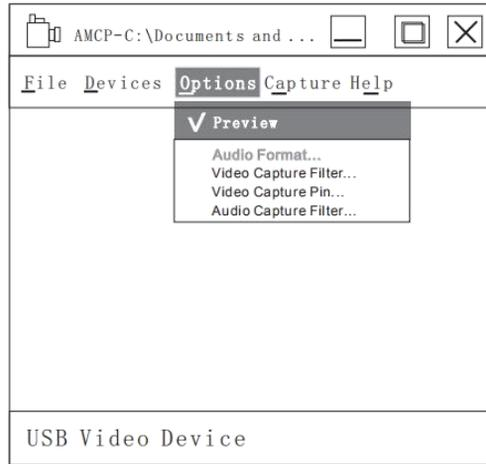

Fig.10 Start the “Preview”
- Select "Options" "Preview", as shown in Fig.10.